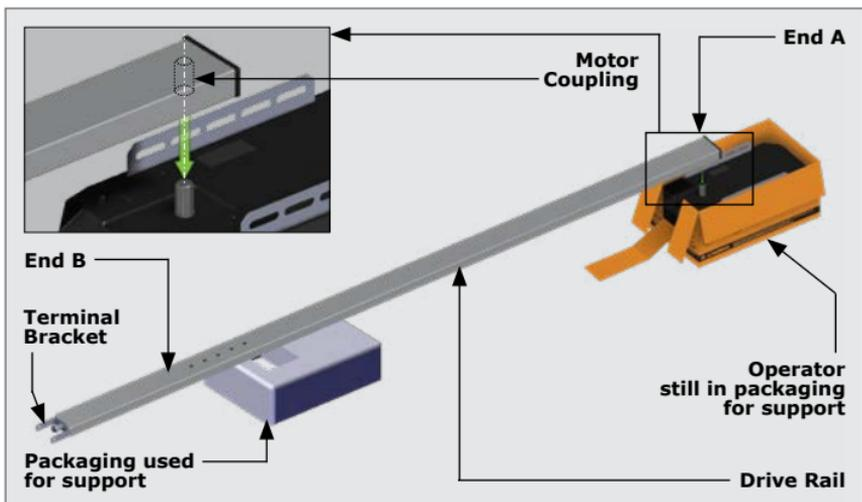

FIGURE 7
1. Orientate the Drive Rail as shown in Figure 7, and fit 'End A' over the motor coupling found on top of the **SDO5 SMART+** Head Unit.